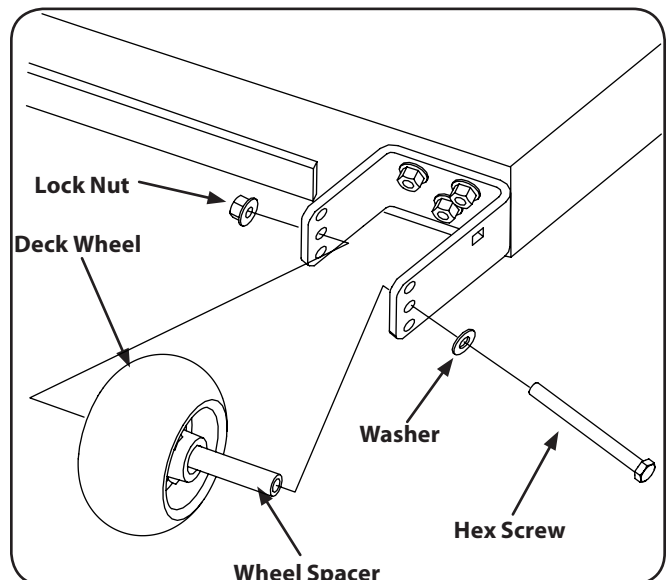

Figure 6-7
2. Remove the lock nut securing one of the front gauge wheel shoulder screws to the deck. Remove the gauge wheel and hex screw. Refer to Figure 6-7.